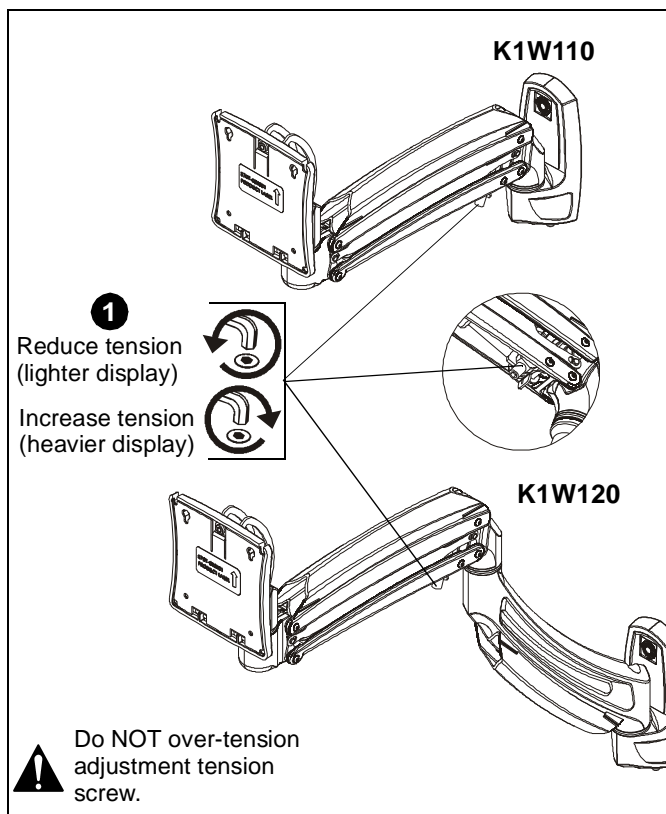

Figure 14
1. Use 3/16" hex key (M) to adjust lift arm tension adjustment screw. (See Figure 14)